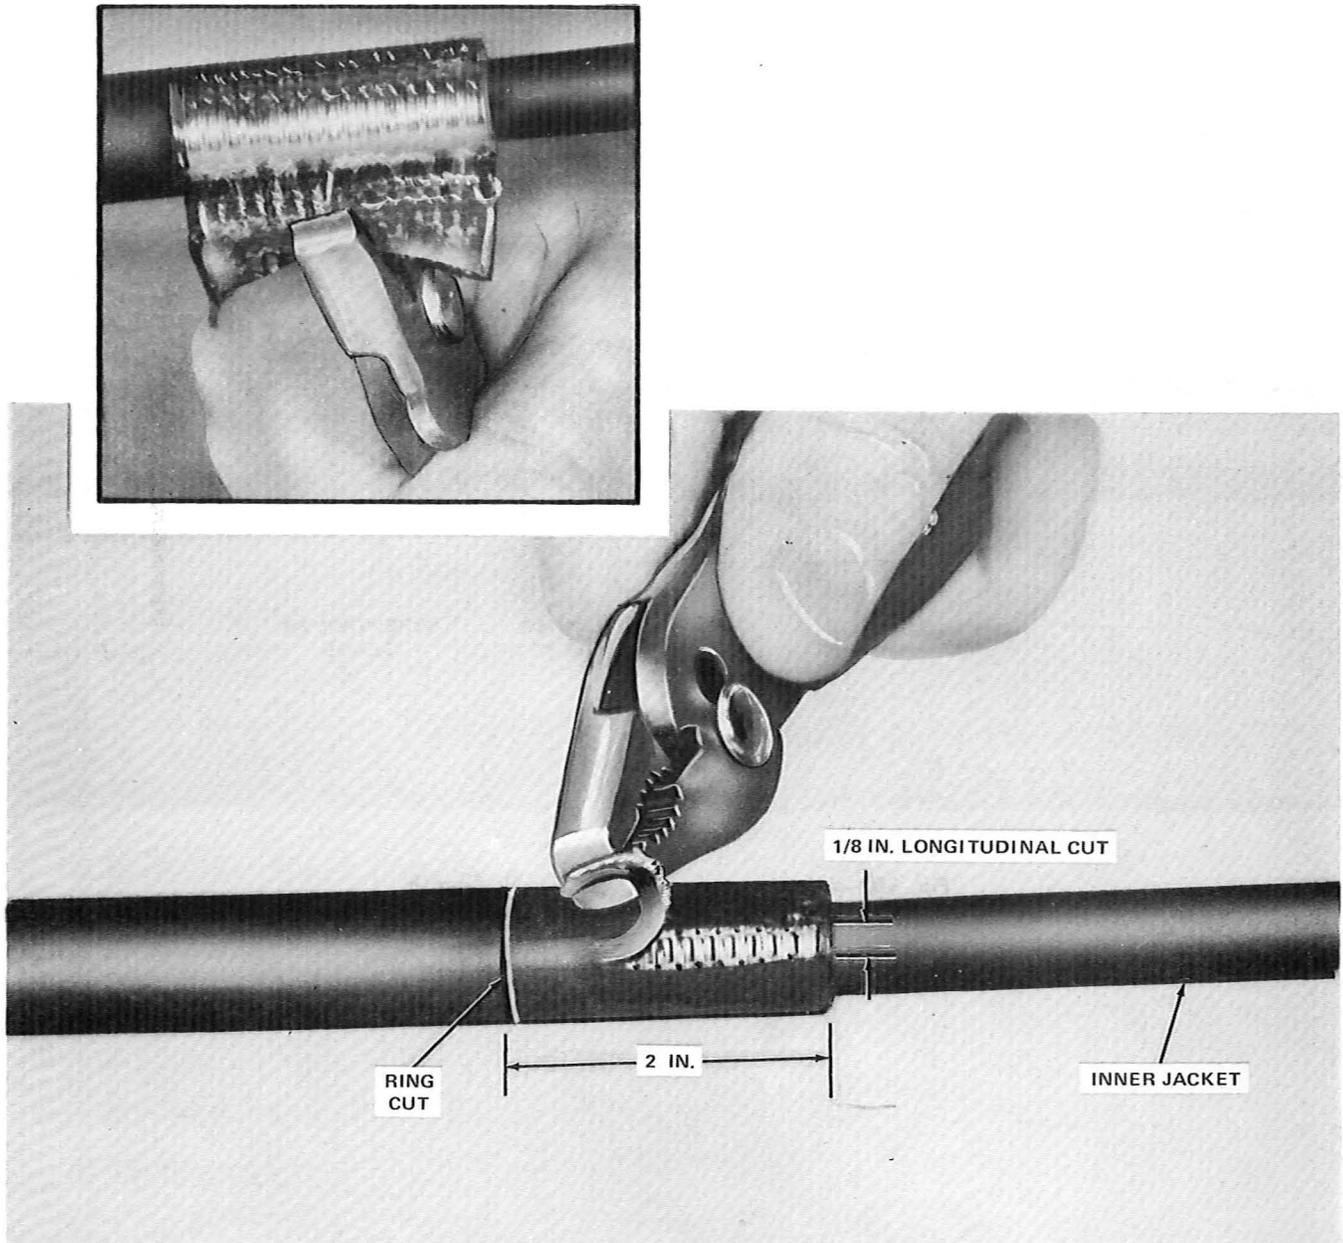

Fig. 102—Removing Outer Jacket of B Oversheath
12.09 Refer to Fig. 102. Ring cut the plastic jacket of the B oversheath approximately 2 inches from the end. Make two longitudinal cuts in the jacket approximately 1/8 inch apart and then, using